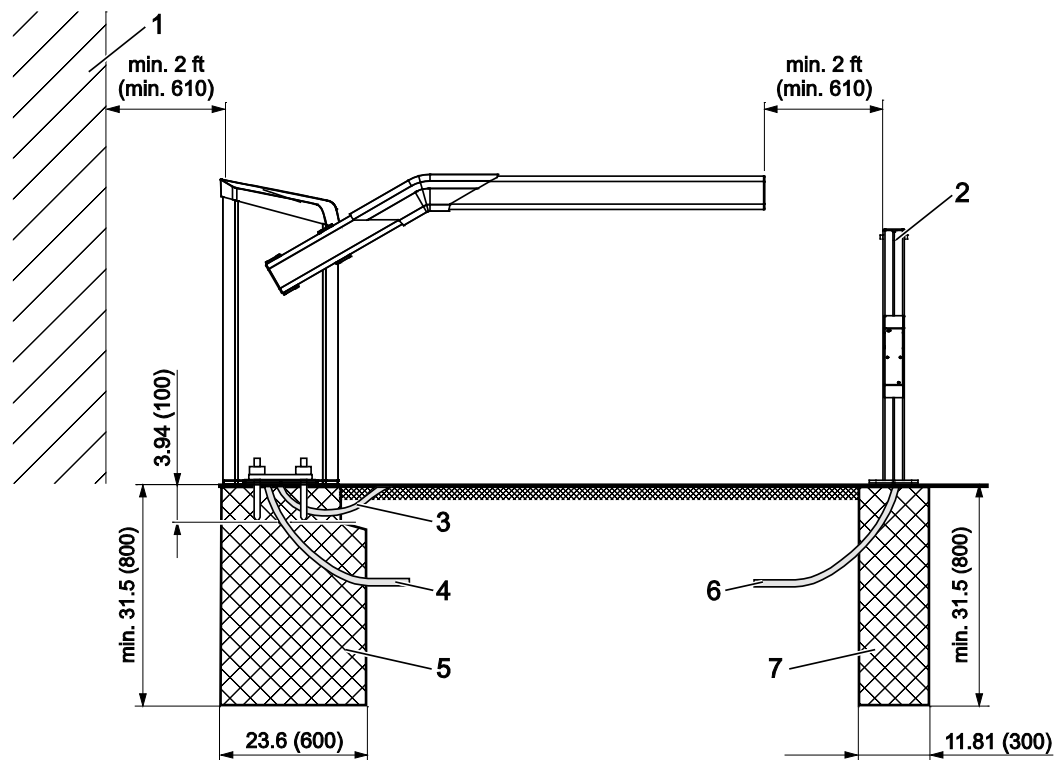

Fig. 13: Assembly barrier system
<p>Danger of crushing and shearing when the barrier opens or closes!</p> <p>When a barrier opens or closes, the barrier arm may lead to severe crushing or injury!</p> <ul style="list-style-type: none"> – Keep a safety distance of at least 2 ft (610 mm) between the barrier arm and other objects, such as walls, masonry or houses. → See also page 25, chapter 2.7. – Install the barrier system only when all exposed pinch points are eliminated or guarded. – Assemble and install barrier system according to Fig. 13. – Controls intended for user activation must be located at least 6 ft (1.83 m) away from any moving part of the barrier and where the user is prevented from reaching over, under, around or through the barrier to operate the controls. Outdoor or easily accessible controls shall have a security feature to prevent unauthorized use.
→ See page 25, chapter 2.7 and page 51, Fig. 13.
→ See page 51, Fig. 13 and page 53, Fig. 14.
1. Dig foundation hole pursuant to Fig. 13 and Fig. 14.
5. Fill concrete foundation pursuant to Fig. 13.
→ See page 51, Fig. 13 and page 55, Fig. 16.
1. Dig foundation hole pursuant to Fig. 13 and Fig. 16.